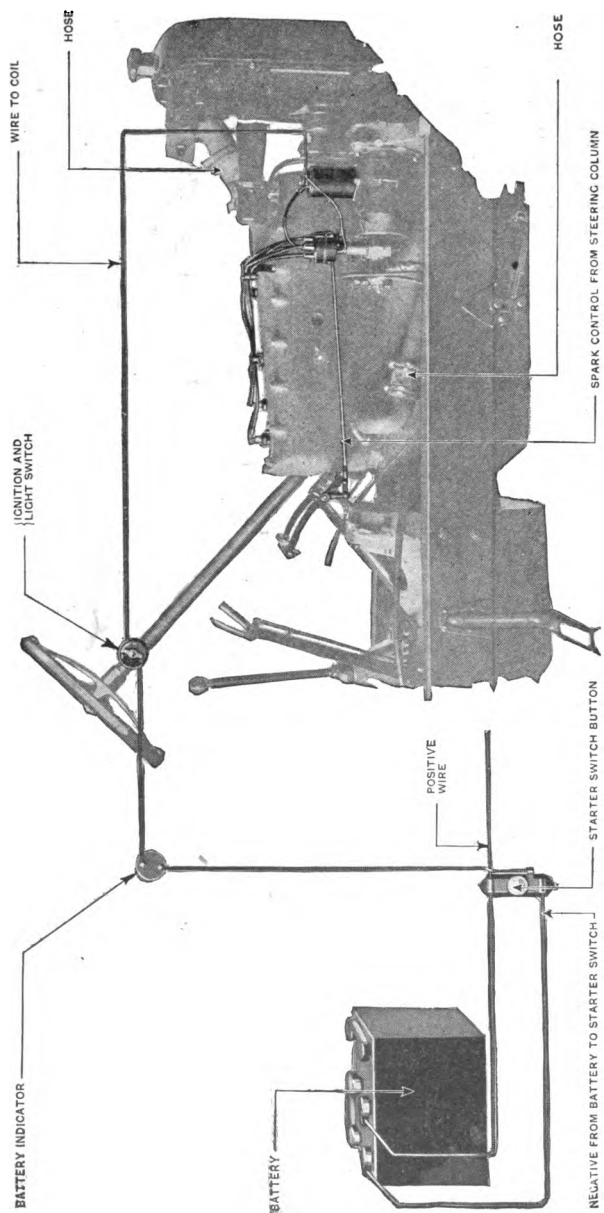

Fig. 23. Ignition System of the Chalmers
**Ignition.** The ignition system, Fig. 23, is composed of a battery, ignition switch, spark coil, breaker, and distributor. The current is taken from the storage battery or generator and passes through the ignition switch, the high-tension coil, and the breaker points. When the points open, a high-tension current is induced